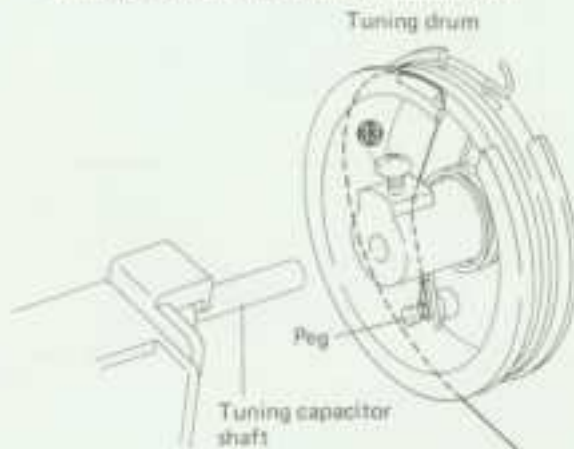
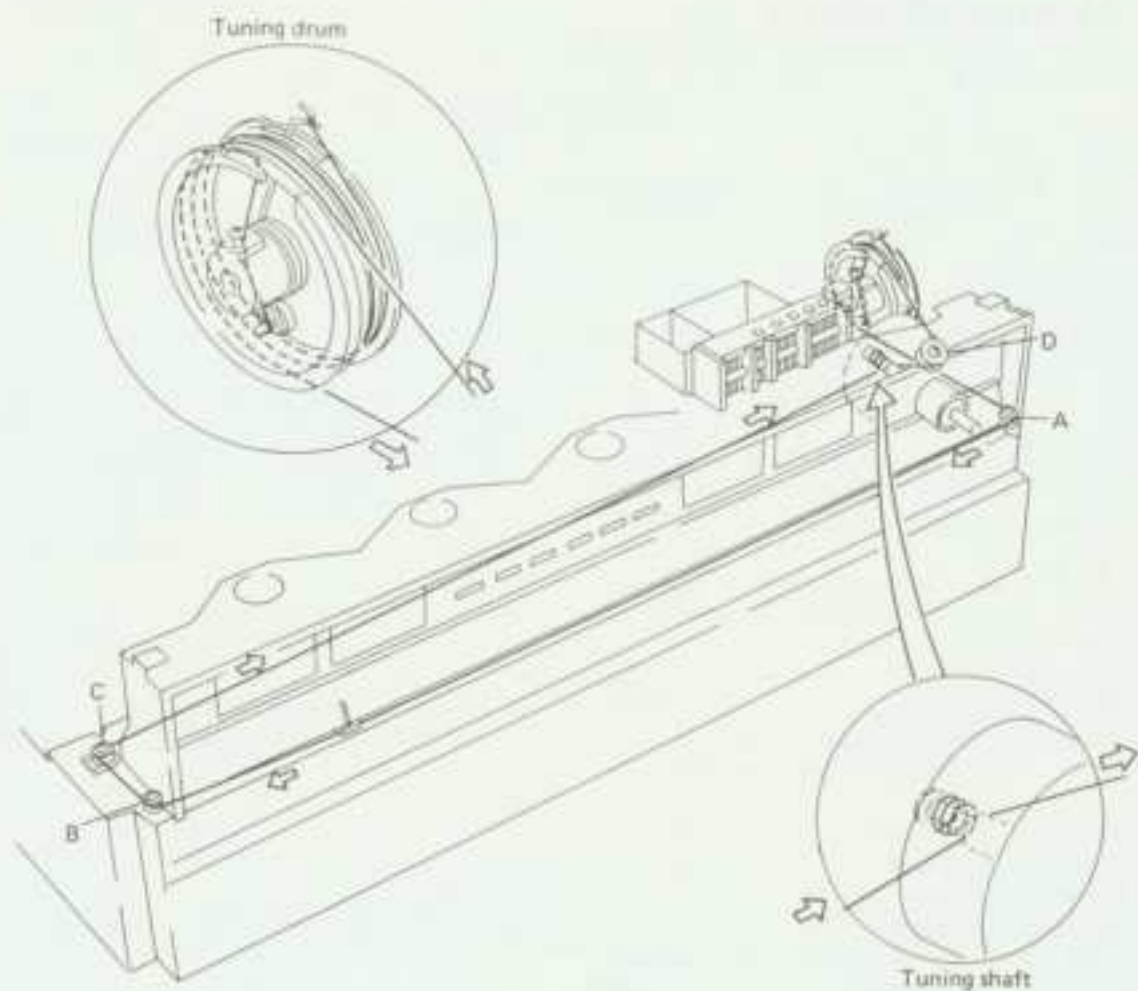

Fig. 14
Fig. 15
3. Loosen screw ⑬, and then remove the tuning drum from the tuning capacitor shaft (Fig. 14).
4. Tie one end of the cord to the peg on the inside of the tuning drum (Fig. 14).
5. With the tuning capacitor blades turned full in, rotate the tuning drum around the variable capacitor shaft so that screw ⑬ is positioned at the apex (i.e. facing straight up).
6. Lead the cord out through the gap in the tuning drum, make half a turn, and then pass the cord over the pulleys A, B, and C in that order. Wind the cord 3 times around the tuning shaft and pass it over pulley D; then make 2 windings around the tuning drum, and finally tie it to the spring, making sure there is sufficient tension in the cord (Figs. 15, 16).